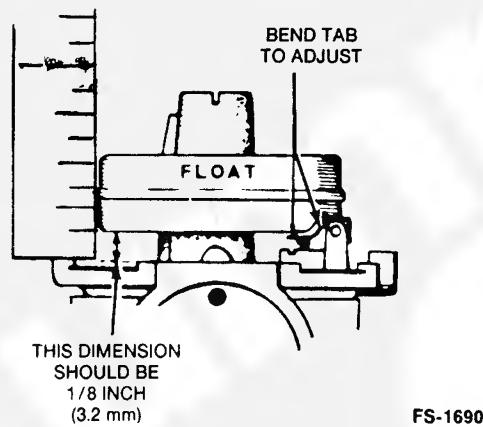

FIGURE 6-15. CARBURETOR FLOAT ADJUSTMENT
- Install the needle valve and seat, fuel bowl gasket, and float assembly. Make sure that all clips and springs are properly placed and that the float moves freely without binding. Check the float level and adjust as necessary by bending the seat tab (Figure 6-15).